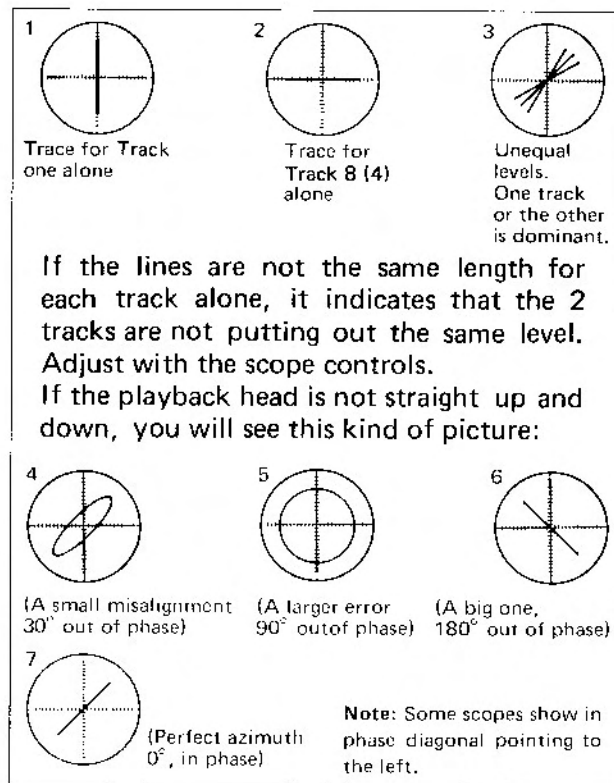

Fig. 2-12. Phase Shift
5. Load the reproduce alignment test tape to reproduce. Then, a scope display reading showing phase relations between both channels will be obtained as shown in Fig. 2-12.